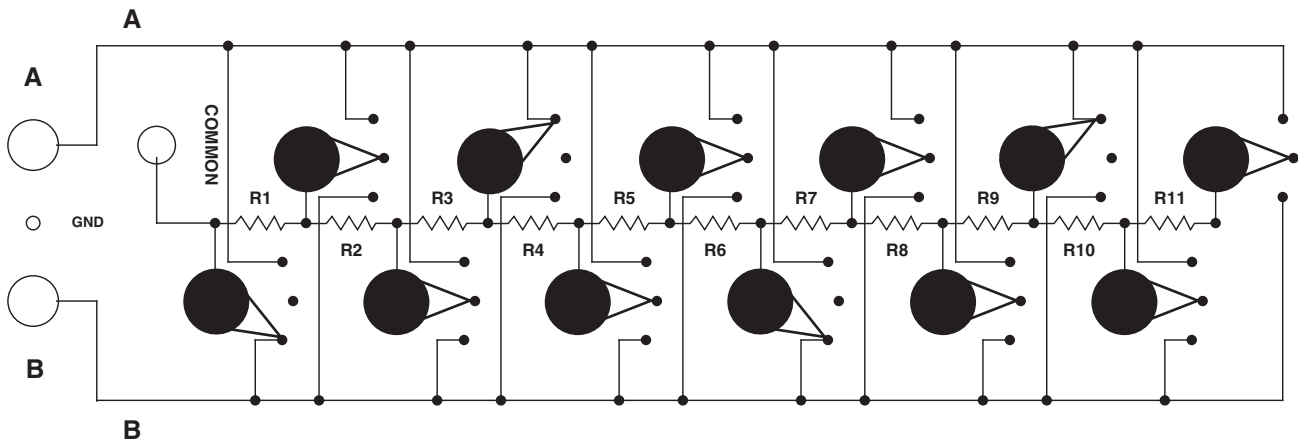

Figure 4-5: Resistance = $1R$: three groups of three, series-parallel
Note: Although this is the easiest way to get $1R$, the best method is depicted in Figure 4-5. The advantage of the configuration shown in that figure is that it uses the combined value of nine resistors, and allows the use of the same adjustment error.
- For a composite value of $1R$ spread over 9 resistors (which allows the use of the same adjustment error), see Figure 4-5.
resistors. Figure 4-5 illustrates a method of switching to connect the nine resistors in series and parallel to equal the nominal resistance value of one step.
This average or net deviation remains constant for all combinations. Thereby, the standard is effectively “transferred” with the same deviation plus the transfer accuracy of the unit to another decade, 10R or 10 M Ω in this example. It may also be transferred to the single step R value with the series parallel combination. See Figure 4-5.